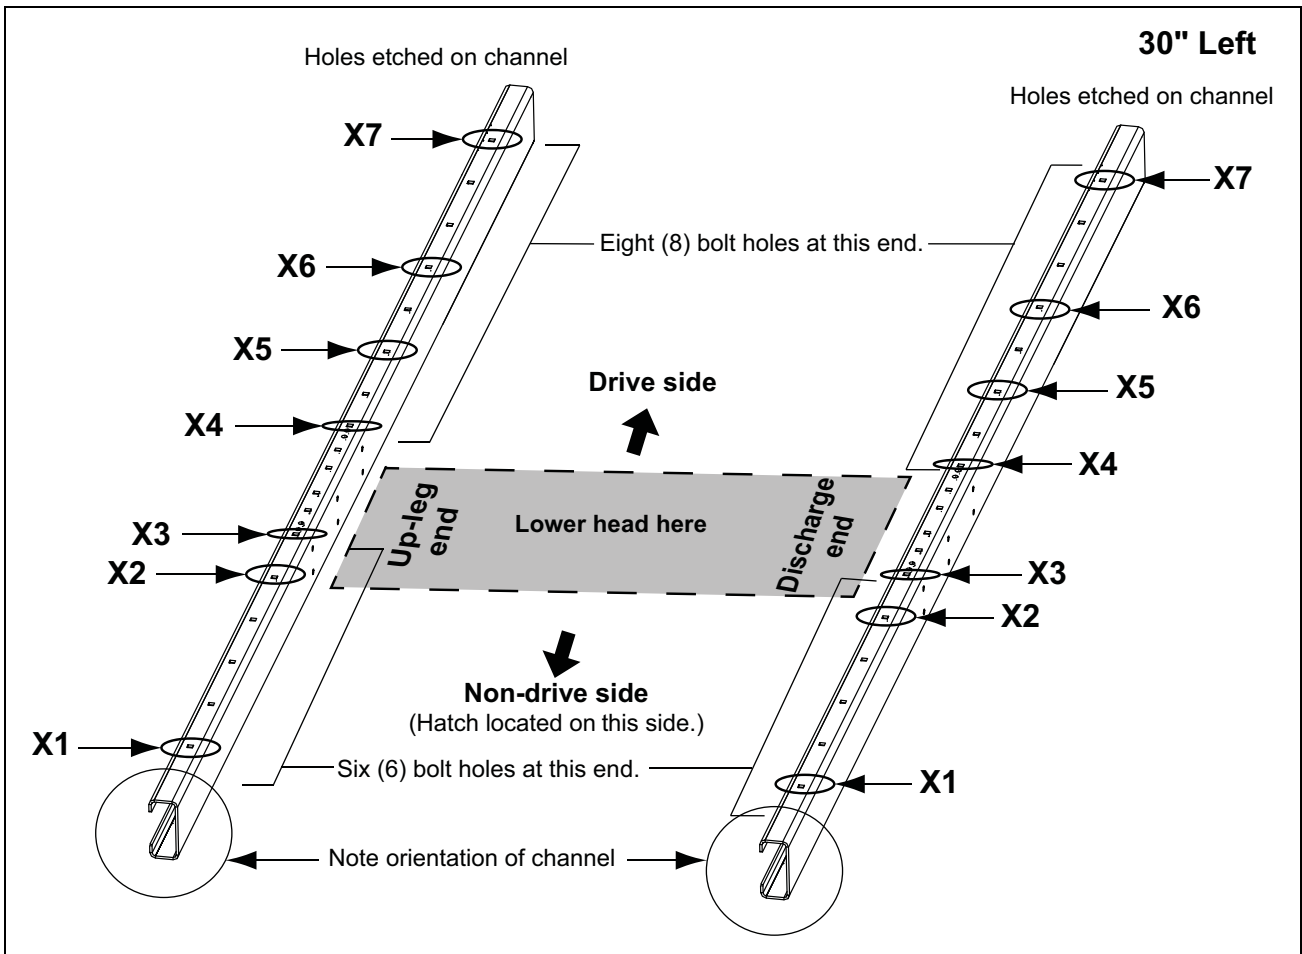
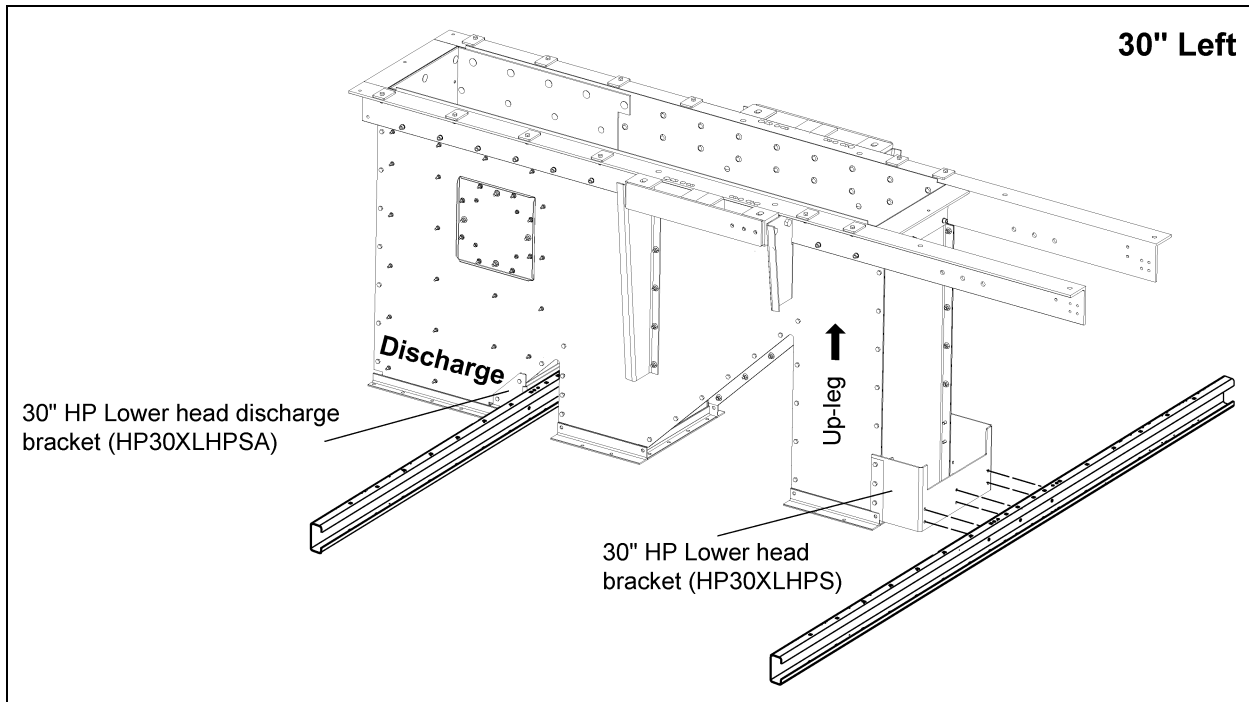

Figure 9B 30" Left Side Drive Channel Position
Figure 9C 30" Left Drive - Cross Deck Support Channels to Lower Head Brackets
(See Figure 9B on Page 67.)
3. Attach cross deck support channels (HP36CDSCX) to the top-most set of holes of the lower head brackets (HSP36130) using 3/8" x 1" bolts and nuts. *(See Figure 9C on Page 67.)*
- *NOTE:** *The channels MUST be oriented as shown in Figure 9B and Figure 9C on Page 67 in order for the decking and subsequent assembly to be done correctly.*